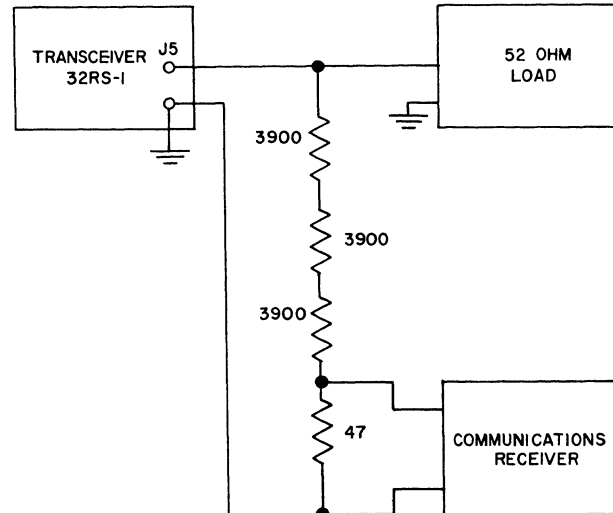

Figure 5-1. Test Equipment Connections During Balance Adjustments
b. Couple a general coverage communications receiver to the 32RS-1 output, and tune to the 32RS-1 frequency. Figure 5-1 is the suggested method of coupling the communications receiver to protect the receiver.